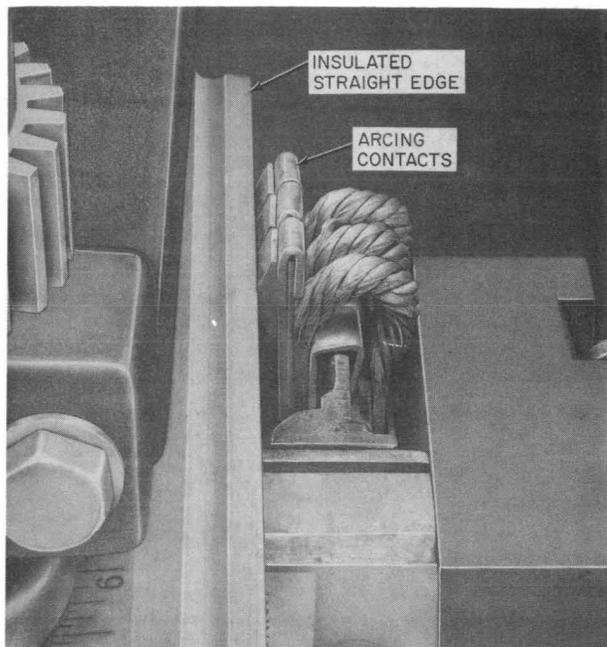

Fig. 6—Method of Checking Arcing Contact Alignment
****4.09 Arcing Contact Alignment** (Fig. 6): The arcing contacts shall be in alignment when
the contacts are nonoperated. Check with an insulated straight edge, as shown in Fig. 6.